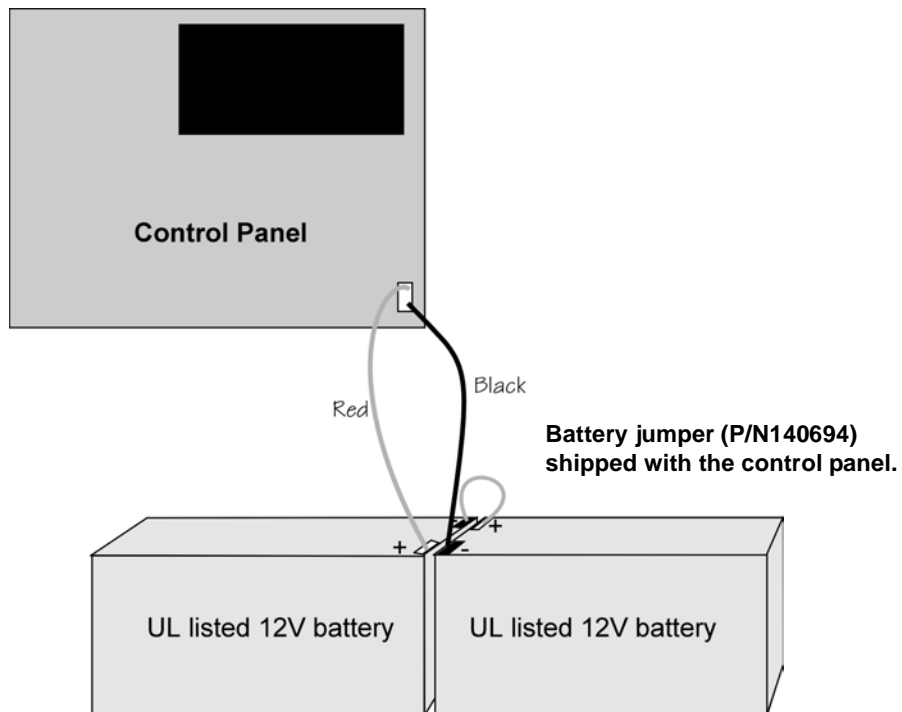

Figure 4-2 Battery Connection
2. Unplug the battery connector from the SK-2224 control panel. See Figure 4-2.
5. Reconnect the battery connector to the control panel. See Figure 4-2.